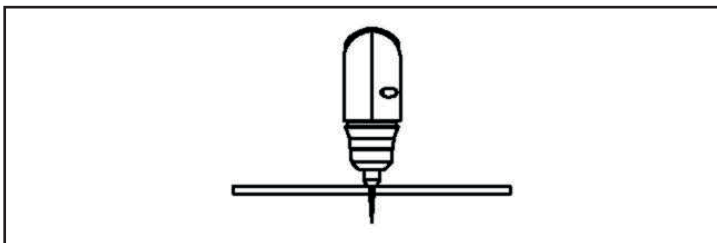

Figure 18
- Complete the pierce off the cutting line and then continue the cut onto the line. Hold the torch perpendicular to the workpiece after the cut is complete. Fig.18